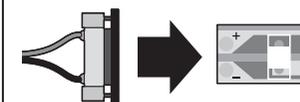

Figure 2
2. Pull the fastener off the supply connector (Fig. 2).